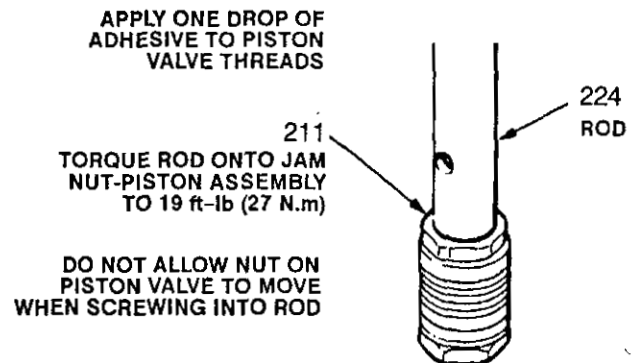

Fig 17-3
7. Use a wrench to **CAREFULLY** tighten the jam nut (211) onto the piston rod to 19 ft-lb (25 N.m). See Fig 17-3.